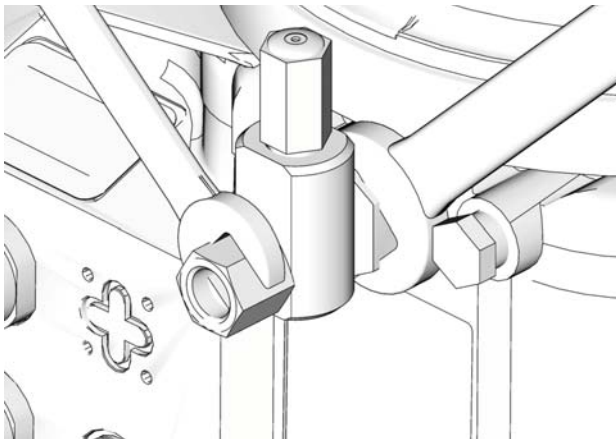

FIG. 5
7. Use two wrenches to tighten banjo bolt (3). Place one wrench on the pump element (b) and the second wrench over the end of the banjo bolt. Only tighten the banjo bolt while holding the pump element securely in place. Torque fitting to 35 ft. lbs (45.7 N•m). Take care to not over-tighten. (FIG. 5).